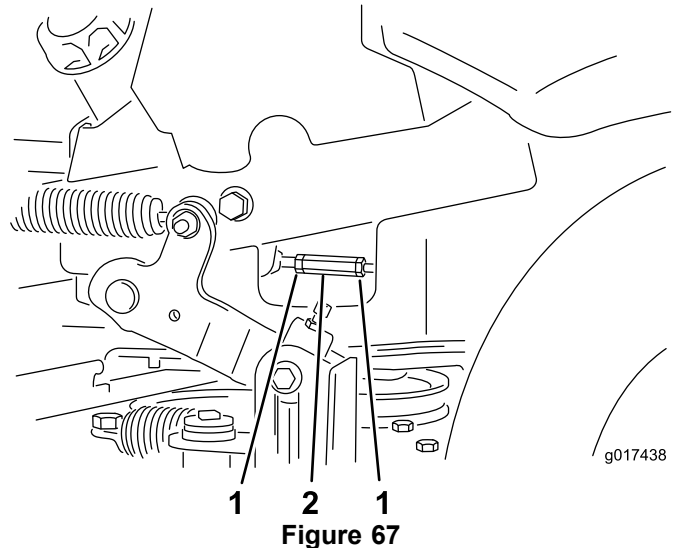

Figure 67
7. Bring the motion-control levers into the neutral position. Adjust the pump control rods by loosening the two jam nuts and rotating the adjustment nut in the appropriate direction until the wheels slightly creep in reverse (Figure 67). Move the motion-control levers to the reverse position and while applying slight pressure to the lever allow the reverse indicator springs to bring the levers back to neutral. The wheels must stop turning or slightly creep in reverse.
8. Tighten the two jam nuts against the adjustment nut (Figure 67).